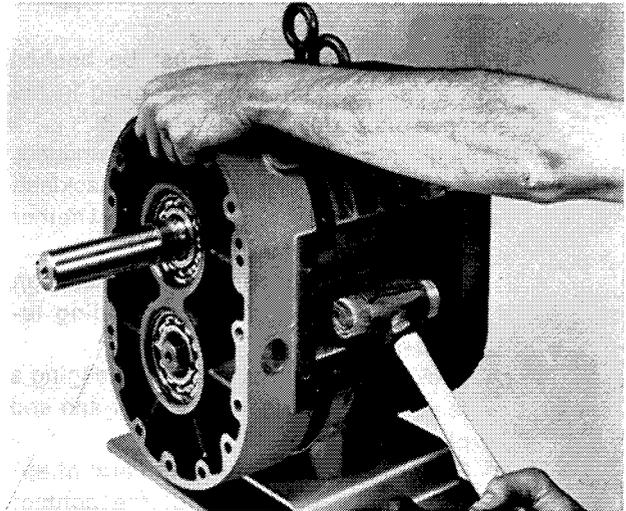

FIGURE 14
- r. Remove the drive end plate from the remainder of the assembly using soft faced mallet to loosen end plate from dowel pins in housing halves (see Fig. 14).